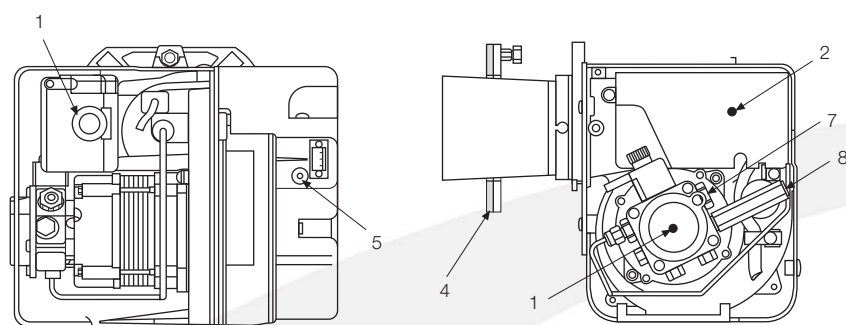

Figure 10-3: RDB burner components
12. Connect a combined vent manifold and pressure gauge to the pressure gauge connection port on the oil pump. See Figure 10-3.
6. Adjust the pressure if necessary - see Figure 10-3.
3. Use the hexagonal key supplied to adjust the burner air damper (see Figure 10-3) as required. Turning the screw anti-clockwise closes the damper and increases CO2 level, turning the screw clockwise opens the damper and reduces CO2 level.